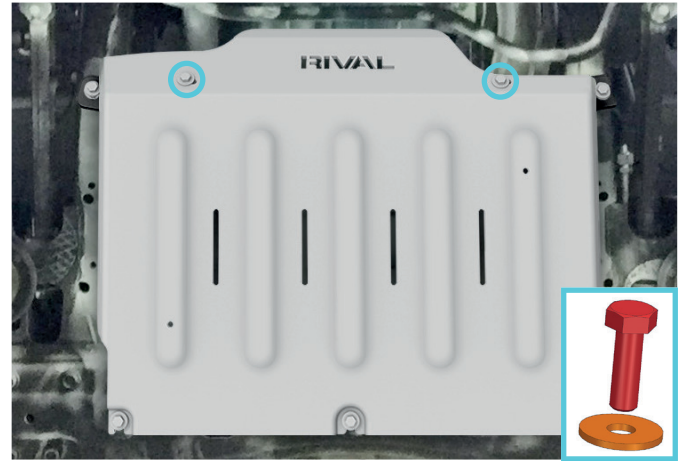

Fig. 6
6. Secure the front part of skid plate to pre-installed mounting bracket using bolts M8x1.25x25 with washers M8 (items A, B) as shown in fig.6.